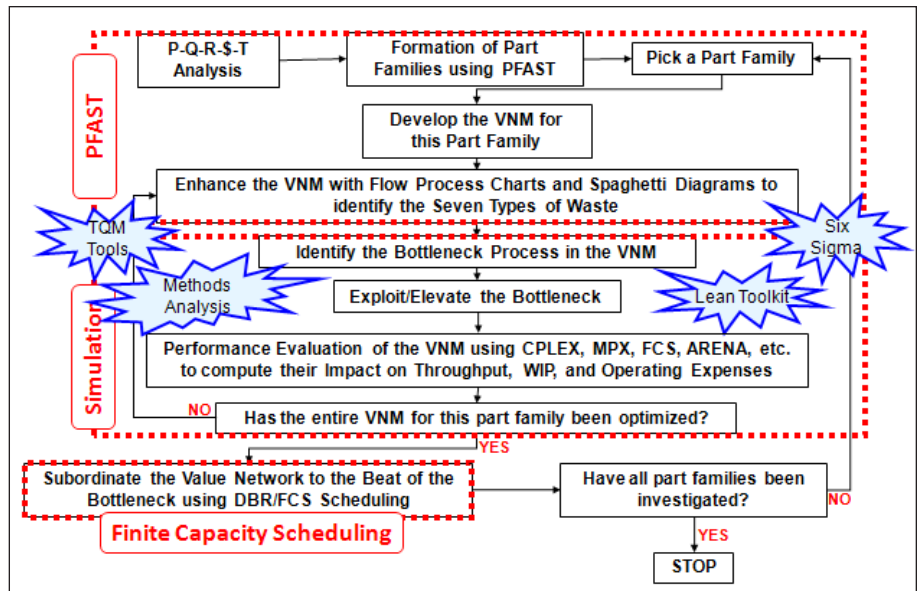

Figure 2 Comprehensive Approach for Implementing JobshopLean.
The real challenge is to implement JobshopLean in a comprehensive manner, unlike the quick-start approach. Figure 2 presents a flowchart for a comprehensive approach for implementing lean in job shops. At the core of this iterative approach is the expectation that (1) a job shop will utilize production flow analysis and/or group technology to identify the stable part families
This section briefly describes some of the key steps in the comprehensive approach for implementing lean in a job shop (Fig. 2). Product mix segmentation is the first step. The method used is PQR\$T analysis (P = products, Q = demand, T = time over which the demand was recorded, R = routings, \$ = sales). Segmentation helps the job shop to focus on a manageably large portion of its entire product mix that accounts for at least 80 percent of the total quantity of parts that were shipped and 80 percent of total earnings.